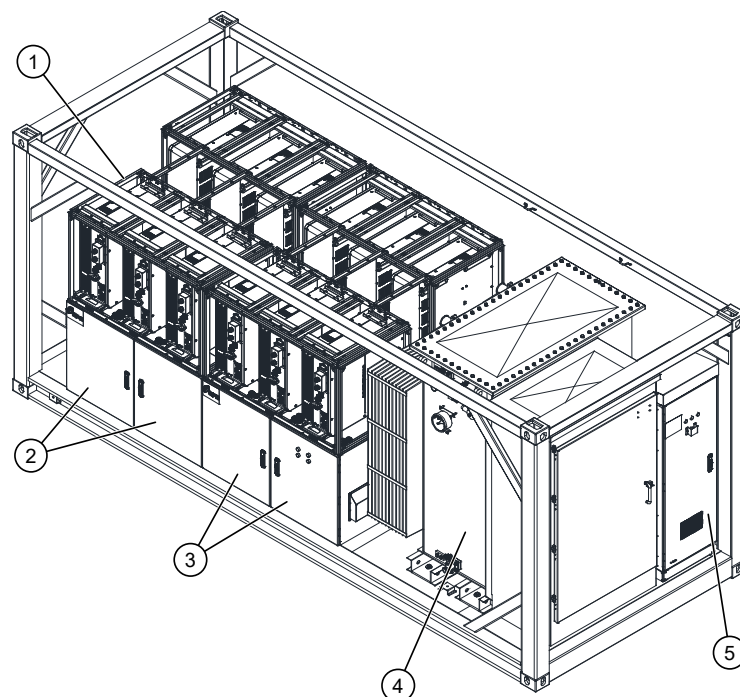

Fig. 2-3 Diagram of main components
2. The dimensions (unit: mm) of the PCS skid are shown in Fig. 2-3.
- The crane shall have sufficient arm length and radius of rotation, please refer to the dimensions of the PCS skid (Fig. 2-3).